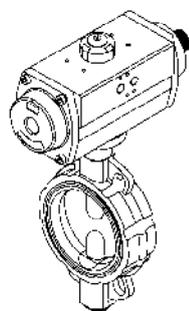
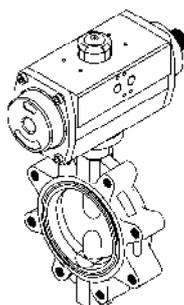
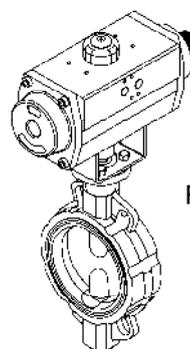
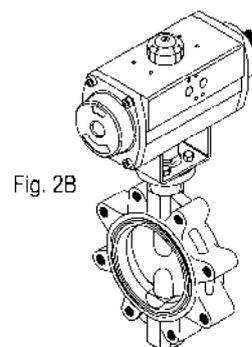

Fig. 1A
Fig. 1B
Fig. 2A
Fig. 2B
- Mounting of the actuator on the valve can be carried out directly (figures 1A and 1B) or by using a mounting bracket (figures 2A and 2B).
Mounting the actuator directly on the valve (Fig. 1A and Fig. 1B)
Mounting the actuator on the valve by using a mounting bracket (Fig. 2A and Fig. 2B)